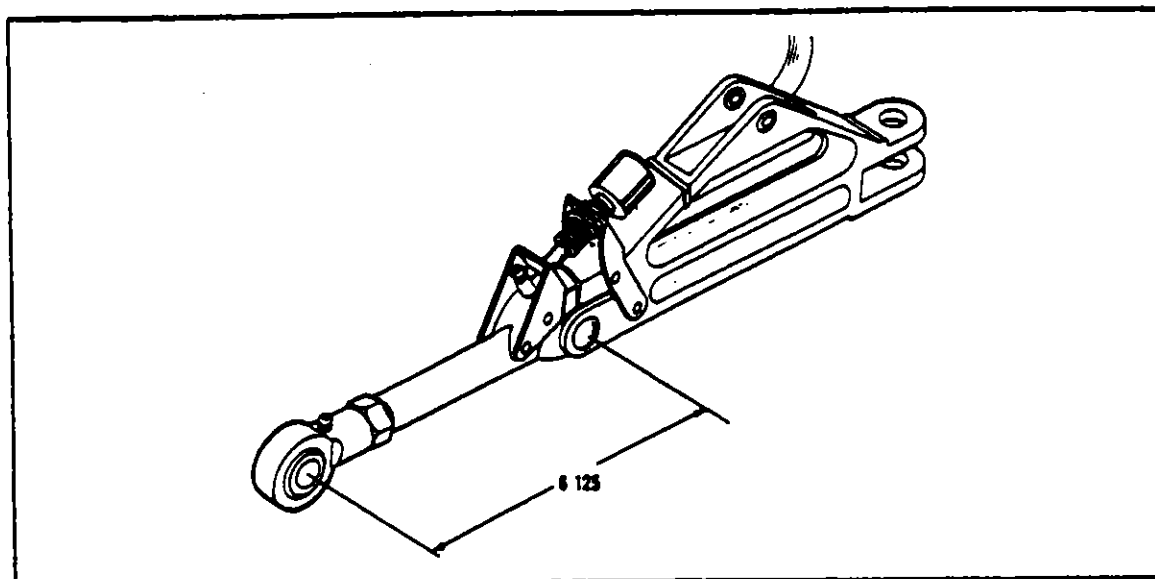

FIGURE 6-10. ADJUSTMENT OF MAIN LANDING GEAR DRAG LINK
a. Insert a gear support bearing (43 and 48) in each support fitting (11 and 18) and secure with snap rings (45).
1. Place a spacer washer (17), 0.035, P/N 19513-10, or original number of washers and then the forward support fitting (18) on the forward support arm of the strut housing.
2. Slide the barrel nut (47) into the forward strut arm and insert the attaching bolt (49) with washer through the fitting into the arm.
4. Secure the aft support fitting (11) to the rear spar web with attaching bolts, washers and nuts.
6. Using the access hole behind the rear spar, insert the bungee tube (10) with washer (44) (0.125, P/N 14843-20) through the rear support fitting and into the rear strut arm using enough shim washers (12) between the rear support fitting and the strut arm to diminish end play of the strut housing. (Shim washers are available in sizes 0.035, P/N 19513-10; 0.062, P/N 14843-93; and 0.125, P/N 14843-20.)
7. Position the side brace support bracket (22) on the main spar web and secure with bolts and washers.
- c. Assemble the upper and lower drag links (24 and 27) with pivot bolt (26).
- d. Adjust the lower drag link to a dimension of 6.125 inches from center of the middle pivot bolt to center of the rod end bearing. (Refer to Figure 6-10.)
- g. Check for clearance between drag link middle pivot bolt head (26) and the main gear capstrip, and binding of the lower drag link and bearing by retracting and extending the gear by hand. If clearance is less than 0.062 of an inch between pivot bolt head and spar capstrip, additional shims (17) must be added between the strut arm and front support bracket.
- h. Install studs (14) in rear strut arm and safety with minimum 0.041 (Spec. MS20995C41) wire (13).
- i. Install barrel nut (46) in rear strut arm and insert bolt (9) with washer through bungee tube and tighten.
6-34. Adjustment Of Main Gear Side Brace Links. (Refer to Figure 6-10.) Disconnect the side brace link from the main gear strut housing, and adjust to maintain a distance of 6.125 inches between the center of the pivot bolt which attaches the upper drag link to the lower drag link and the center of the rod end bearing.